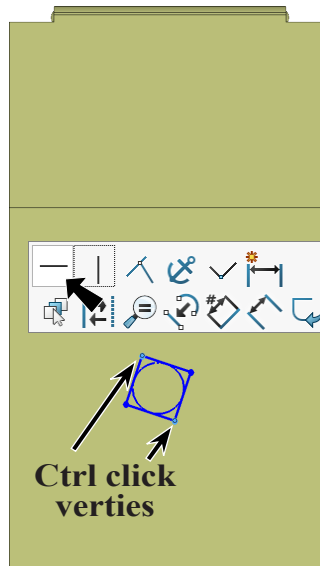

Fig. 29
Step 7. Click **two opposite vertices of polygon** and click **Make Horizontal**  on the context toolbar, **Fig. 29**.